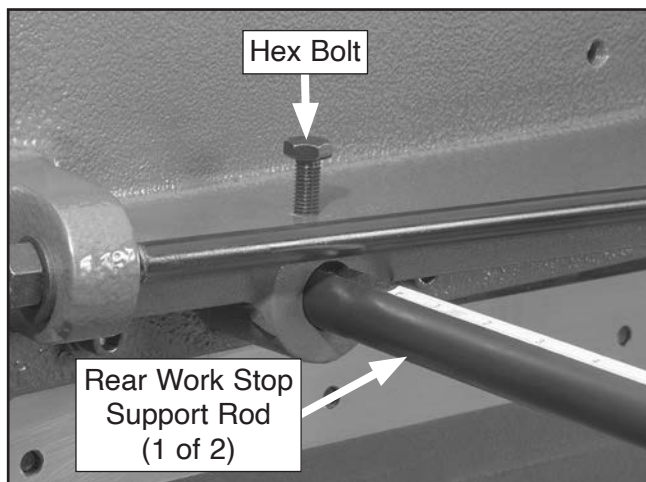

Figure 14. Rear work stop support rods installed on machine.
7. Insert (2) rear work stop support rods in holes shown in **Figure 14**.
8. Secure rear work stop support rods in place by tightening pre-installed hex bolts (see **Figure 14**).